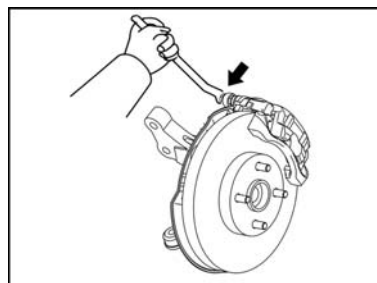

Fig. 2-51
② Remove the 2 bolts after securing the sliding pin of the slave cylinder of front disc brake. See Fig. 2-51.